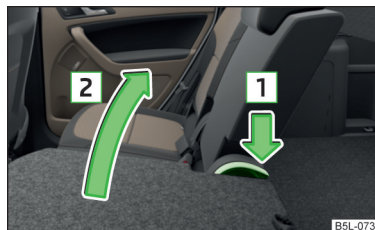

Fig. 75
- › Press the lever in direction of arrow **1** » Fig. 75 and fold back the seat backrest in the direction of arrow **2**.